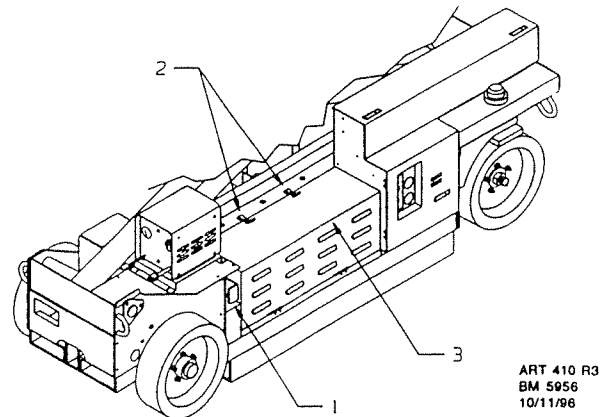

Figure 4-5. Battery Access Panel
3. Pull BATTERY DISCONNECT (1, Figure 4-5) handle to remove batteries from all electrical circuits.
4. Unhook T-straps (2) and pivot battery access panel (3) out and down until panel rests on floor.
10. Install new batteries (1) in proper locations referring to sketch and/or tags installed in step 6.
11. Swing hold down angle (4) up and locate on front top corner of batteries. Tighten wing nuts (3).
12. Securely connect all battery cables (2) to proper terminals referring to sketch and/or tags installed in step 6.
14. Position battery access panel (3, Figure 4-5) by batteries so pins will engage hinge holes. Slide panel to right.
15. Pivot battery access panel (3) up over batteries and engage T-straps (2).
16. Push BATTERY DISCONNECT (1) handle to connect unit electrical circuits to batteries.